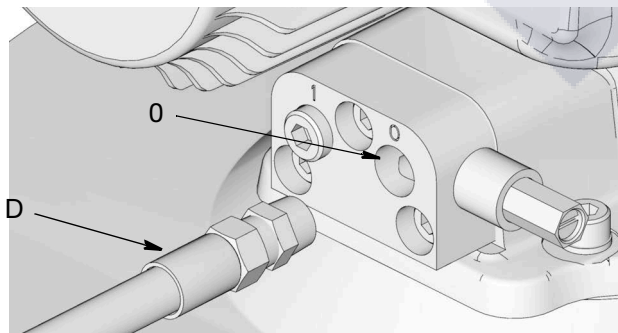

FIG. 53: Lubricant Outlet Connection
28. Connect the timer/controller (F) (user supplied, if used).
29. Connect High Pressure Lubricant Supply Line (D) to the Lubricant Output Connection (O) (FIG. 53) on the Vent Valve or Manifold.